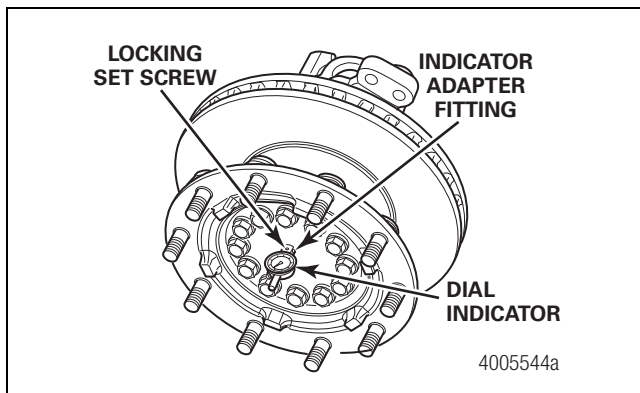

Figure 13.22
6. Attach the dial indicator. Loosen the locking set screw and slowly slide the dial indicator through the fitting hole. Position the dial indicator against the hub face and tighten the locking set screw as the needle starts moving. Set the dial indicator to ZERO. Do not rotate the wheel end. Figure 13.22.